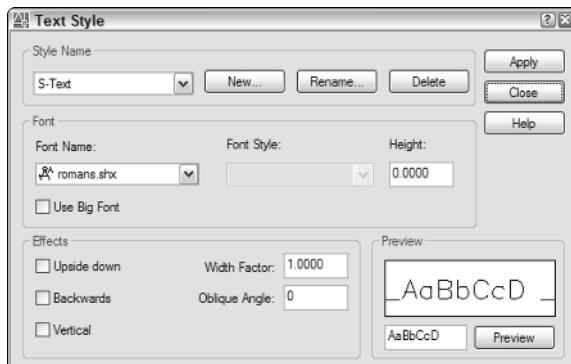

Figure 10-1:
The Text Style dialog box appears, as shown in Figure 10-1.
7. Set the remaining text style settings as shown in Figure 10-1: